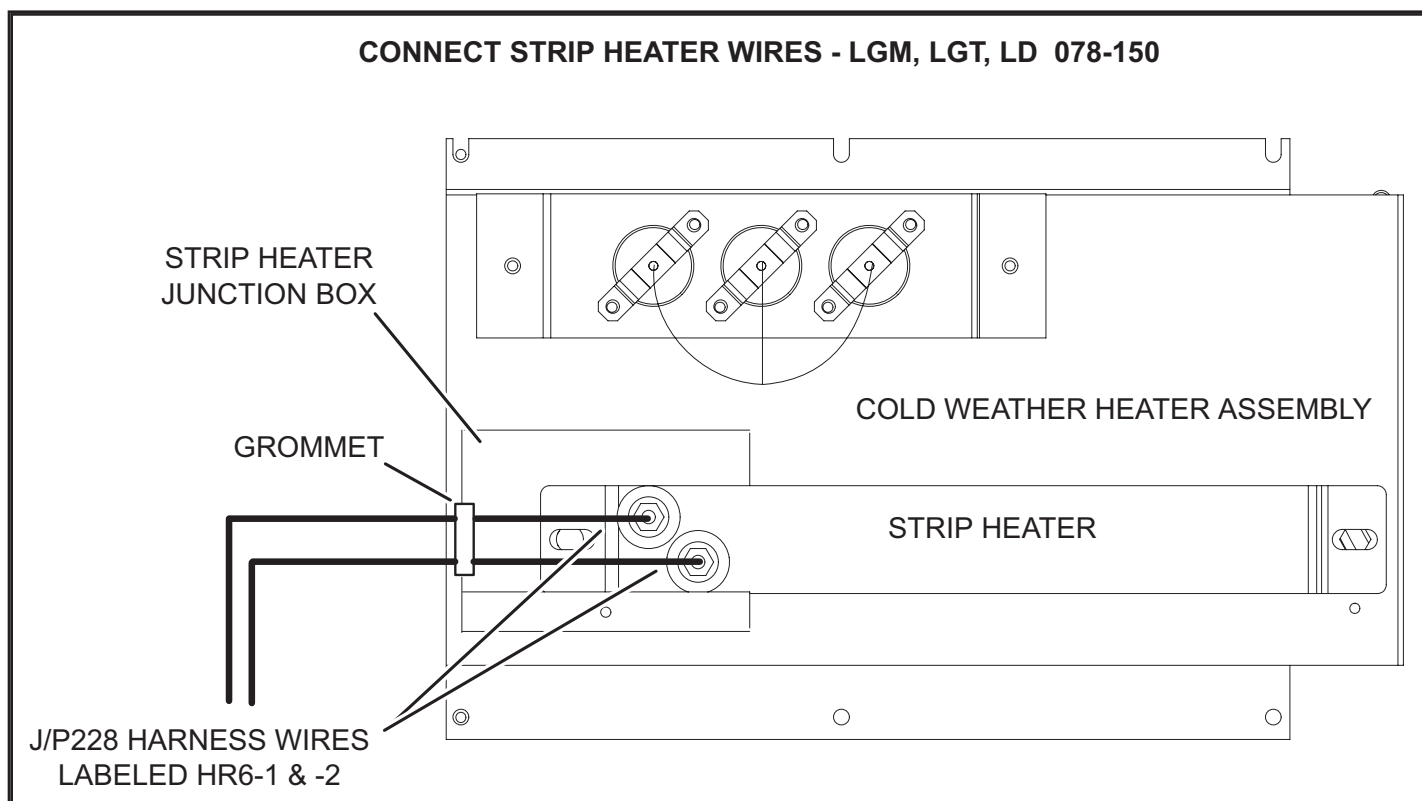

FIGURE 9
- 3 - Remove strip heater junction box cover. Route two power harness wires labeled HR6 through the junction box side grommet and connect to the strip heater terminals. See FIGURE 9. Replace junction box cover.